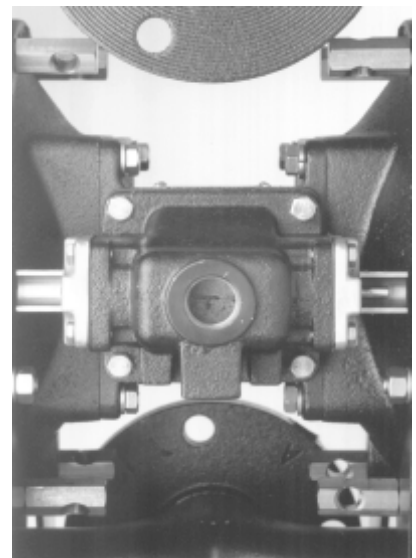

Figure 3: Air distribution valve
The sleeve and spool set is located in the valve body, which is held onto the intermediate bracket by four (4) capscrews. Loosening the four (4) hex head capscrews allows the valve body to drop out of place (See Figure 3).